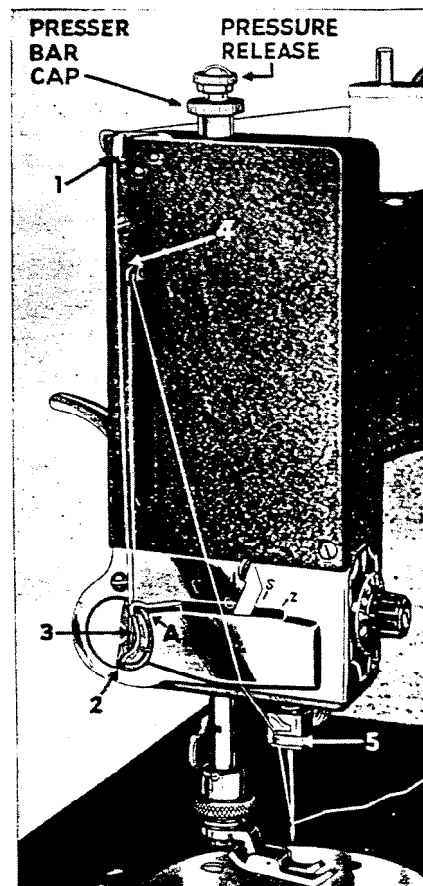

FIGURE 7
See Fig. 7. Raise the presser foot by raising the presser foot lifter. Then turn disc wheel by hand until the takeup (4) is at its highest point. Place spool of thread on the spool pin located in the center of machine arm, and throughout entire threading operation maintain a slight tension on the thread with the fingers of the right hand close to the spool.
See "Darning", Pg. 47 for instructions on the use of the presser bar cap with pressure release shown in Fig. 7.